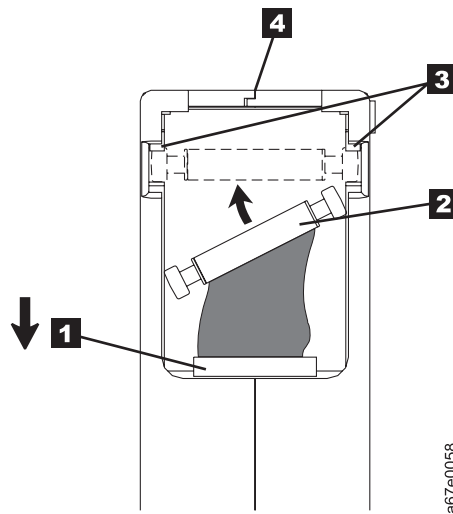

Figure 121. Placing the dislodged leader pin into the correct position. The cartridge door is open to show the leader pin.
1. Slide open the cartridge door (**1** in Figure 121 on page 153) and locate the leader pin **2** (you may need to shake the cartridge gently to roll the pin toward the door).